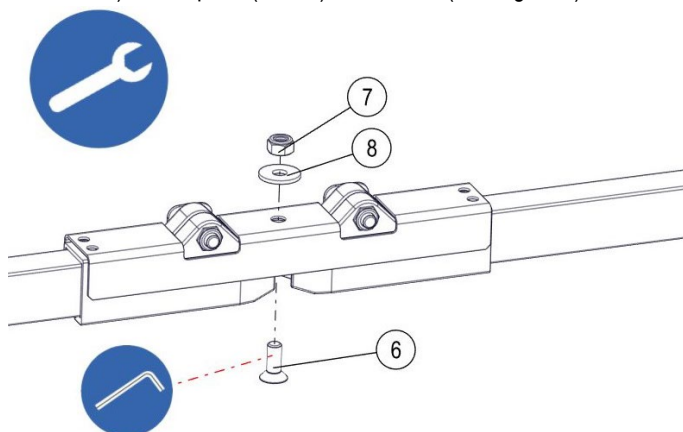

Fig. 103: Mount the cover
- Tighten the countersunk screw DIN 7991 M6x16-A2 (Pos. 6) with a hexagon screwdriver SW5 and washer DIN 9021-A6,4-A2 (Pos. 8) as well as the hexagon nut DIN 985-M6-A4 (Pos. 7) using an SW10 open-end wrench so that the cover (Pos. 3) on the plate (Pos. 2) is mounted (see Fig. 103).